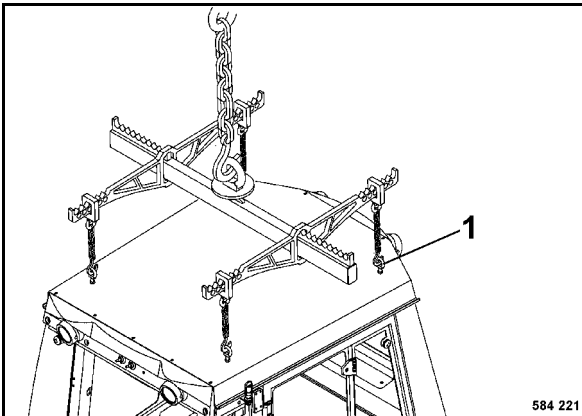

Fig. 203
- Fasten the lifting gear to the four lifting eyes 1 (Fig. 203).